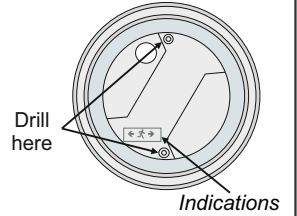

Figure 6
Step 3. Drill 2 holes on the base (Figure 6) using a 4mm drill bit in order to permit the retaining screws to pass. Mark these two drilled points on the required mounting location, drill the holes and install the supplied plastic plugs. **ATTENTION!!** Especially for the GR-280/24VDC luminaire installation on the ceiling you must align the base with the indications on the luminaire's base.